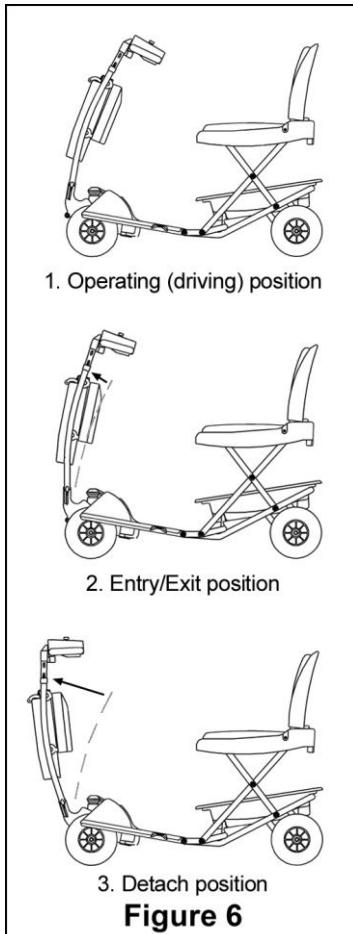

Figure 6
(Figure 6)
3. For detaching the front column from the rear frame, adjust the column fully forward to the detach position (Fig. 6/3); remove battery before adjusting the column to the detach position.